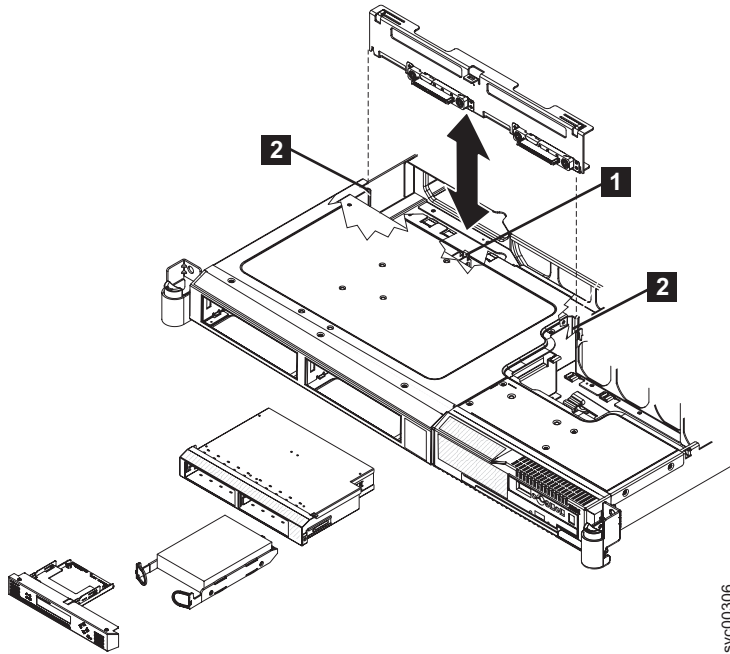

Figure 123. The SAN Volume Controller 2145-8G4 SATA disk drive and back plate
9. Press the locking tab **1**, which is shown in Figure 123, and lift the back plate out of the node slightly. Disconnect the power cable and remove the back plate.